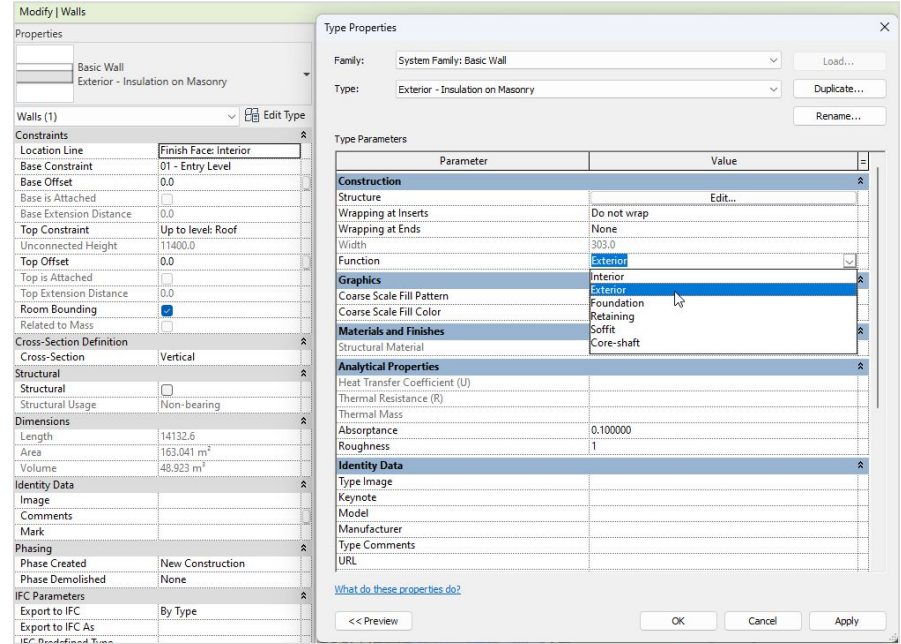

Figure 15: Function parameter of wall family types
- Definition of internal and external walls. The function of the wall family types can be defined in Revit by the "function" family parameter shown in Figure 15. This parameter is being read by the One Click LCA plugin, and based on its value, it will classify the wall materials as external or internal walls.